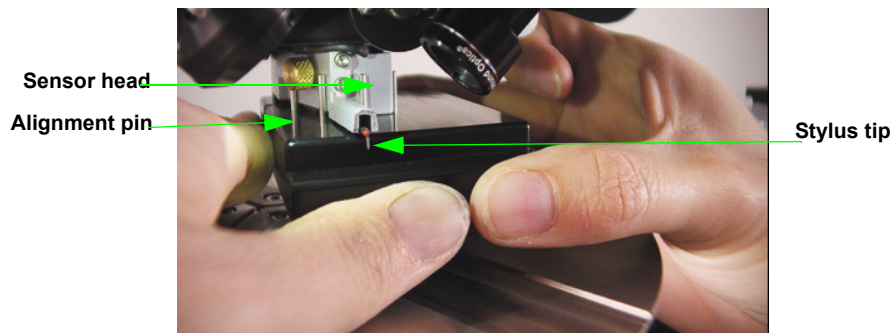

Figure 3-19: Stylus Exchange Tool Flush with the Bottom of the Sensor Head
- 8 Position the stylus exchange tool beneath the sensor head (see Figure 3-19).
- 9 Holding the stylus exchange tool by its sides, align the alignment pins on its top with the outside of the front of the sensor head (see Figure 3-19). Gently push up until the tool is flush with the bottom of the sensor head. The ridge at the back of the stylus exchange tool must roughly line up with the back of the sensor head. The stylus tip should extend out through the front of the channel on the exchange tool.
- 7 Place the stylus exchange tool underneath the sensor head on the DektakXT profiler. Holding the stylus exchange tool by the sides, align the alignment pins on its top with the outside of the front of the sensor head (see Figure 3-19). Gently push up until the tool is flush with the bottom of the sensor head. The ridge at the back of the stylus exchange tool must roughly line up with the back of the sensor head.